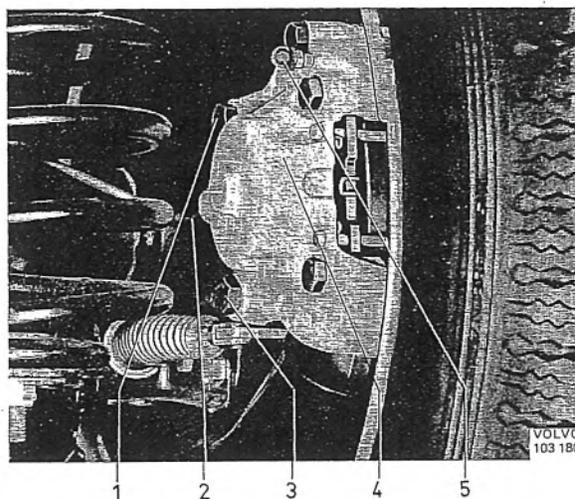
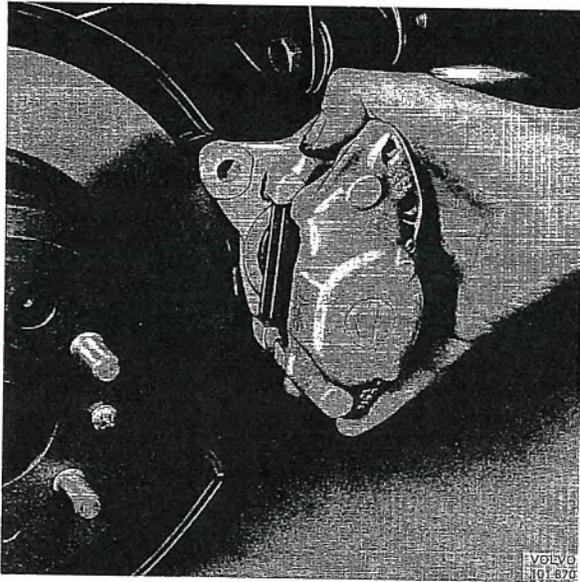

Fig. 5-25. Rear wheel brake unit fitted
Fig. 5-26. Removing rear wheel brake caliper
3. Disconnect the brake line (2, Fig. 2-25) from the caliper and fit a protective cover on the brake line. Remove the attaching bolts (1 and 3, Fig. 5-25). Remove the brake caliper, see Fig. 5-26.
2. Connect the brake line, see Fig. 5-25. Remove the plug for the vent-hole in the brake fluid container cover.